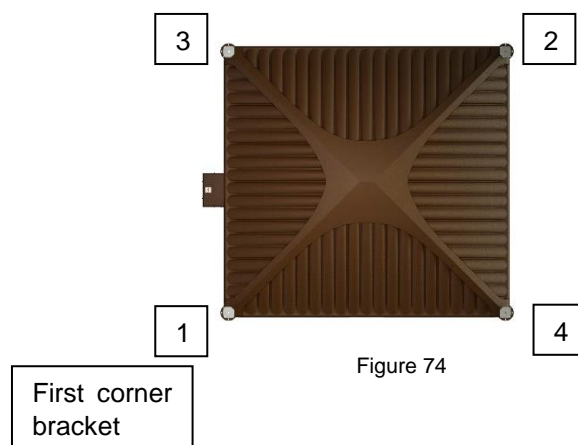
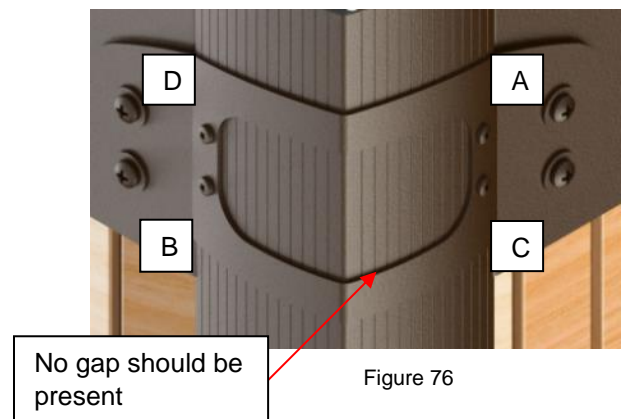

Figure 74
Figure 76
- 4) Repeat step 3 for each remaining corner bracket, follow the order of installation as shown in Figure 74, 1 to 4.
Note: Follow the pattern shown in Figure 76 (A to D).
- Make sure there is no gap between the sleeve and the bracket. If there is a gap, verify the previous step 5. (Figure 76)
- 6) Repeat step 5 for the remaining brackets. Follow the same assembly pattern as shown in Figure 74 and Figure 76.